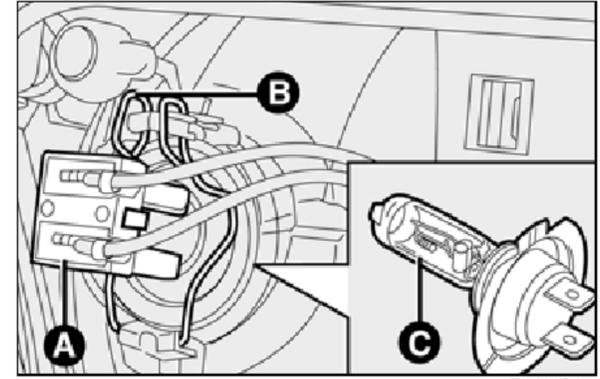

fig. 24
- disconnect the electric connector **A-fig. 24**;
- release the bulb holder catch **B-fig. 24**;
- remove the bulb **C-fig. 24** and replace it;